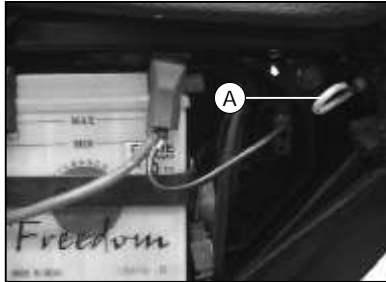

Fig. 1 Seat Release Cable
- To remove Seat Rear, pull the 'Seat Release Cable' (A) shown in fig. 1 to release seat lock. Keeping cable pulled, tap the center of seat, lift the seat from rear end and slide it towards tail lamp to remove seat.